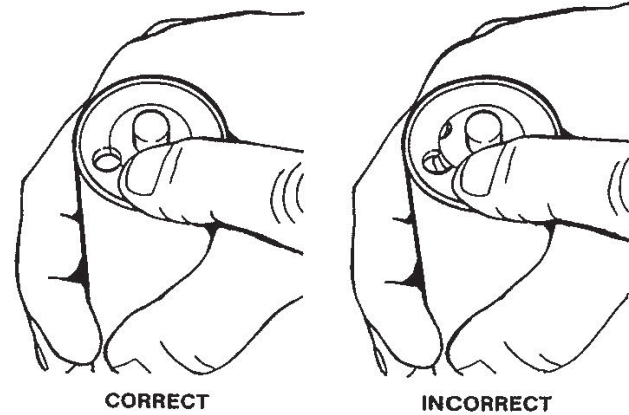

Figure 30. Correct and Incorrect Alignment of Vertical Center Post Guide Hole
10. Rotate the agitator tube clockwise until the guide hole at the top of the agitator tube forms a complete circle with the hole at the top of the vertical center post (Fig. 30).